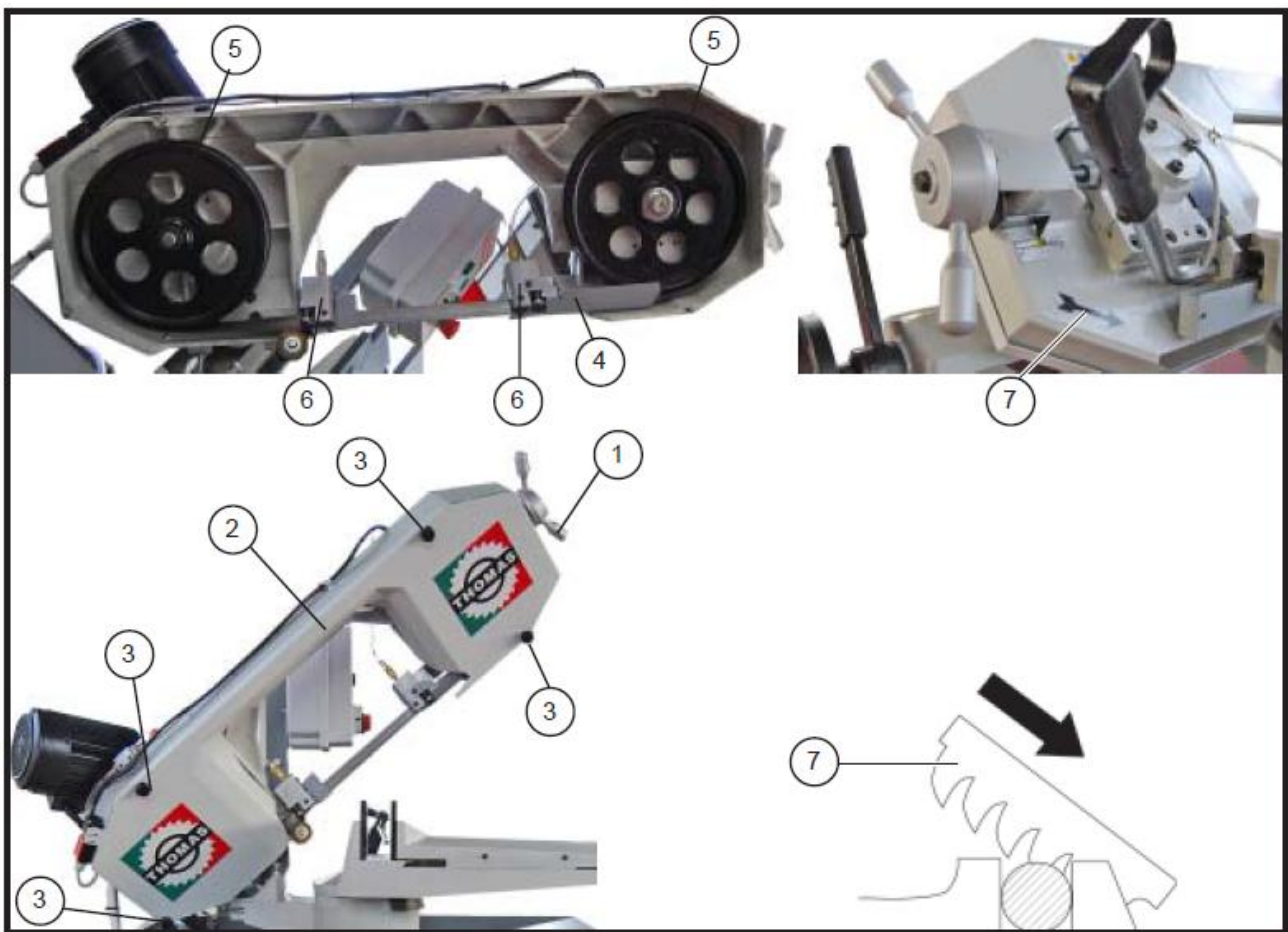

Fig. 9-11
- b) Release the blade tension by turning the hand wheel (1 fig. 9-11) anti-clockwise.
- c) Open the sawframe cover (2 fig. 9-11) by releasing the black plastic knobs (3 fig. 9-11).
- d) Remove the mobile blade-guide protection (4 fig. 9-11).
- e) Remove the blade off the flywheels (5 fig. 9-11) and blade-guide blocks (6 fig. 9-11).
- f) Mount the new blade first inserting it through the blade-guide carbide pads and then placing it onto the flywheels, making sure that the blade teeth direction is according to 7 fig. 9-11.
- g) Put the blade under tension by turning the hand wheel (1 fig. 9-11) clockwise and making sure that the blade perfectly seat on the flywheels.
- h) Mount the mobile blade-guide protection (4 fig. 9-11) and close the sawframe cover with the knobs (3 fig. 9-11). Doing so, the relevant interlock switch is activated, otherwise the machine could not start.